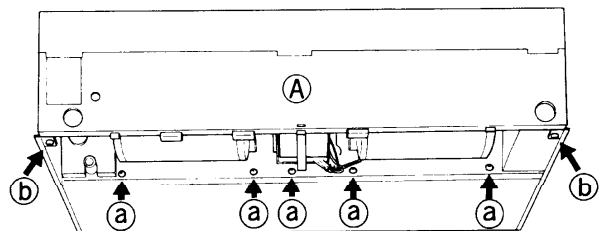

Fig. 8
- (6) Remove the five screws (a) fixing the bottom plate and the partition plate.
- (7) Remove the drain pan in this condition.
- (8) Remove the two screws (b) to remove the rear panel (A).
- Fig. 8